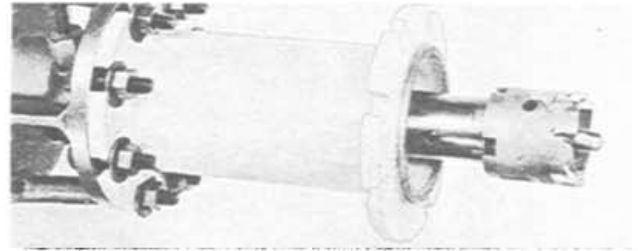

FIGURE 64
- b. When using CC-36 or C1-36 machines: Assemble shell cutter and cutter hub. Insert the shank of pilot drill into the socket in the boring bar. Slide cutter hub and shell cutter over the end of the boring bar. Align holes in the cutter hub, boring bar and pilot drill and attach to boring bar with hub retaining bolt. See **Figure 64**. Coat shell cutter and pilot drill thoroughly with MUELLER cutting grease.